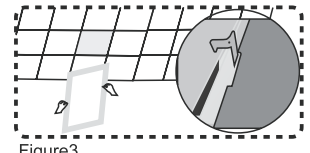

Figure3
4. Place the panel into the ceiling and safeguard panel is stabilized on T-Bar (Figure 3).